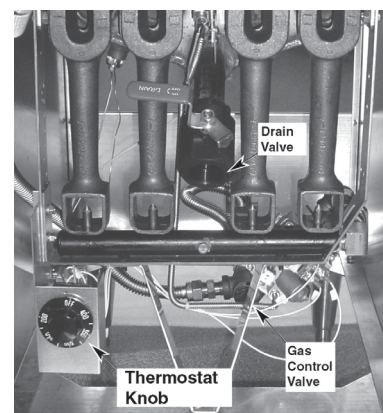

Fig. 3
1. Turn thermostat OFF. Thermostat is located behind the door (Fig. 3).